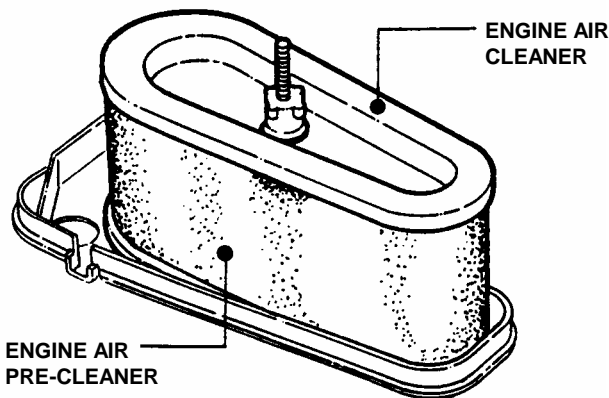

FIGURE 3.4
2. Remove and clean engine air pre-cleaner. See Figure 3.4. Refer to engine owner's manual for cleaning instructions.
3. Remove and replace engine air cleaner. See Figure 3.4. Refer to engine owner's manual for service instructions.